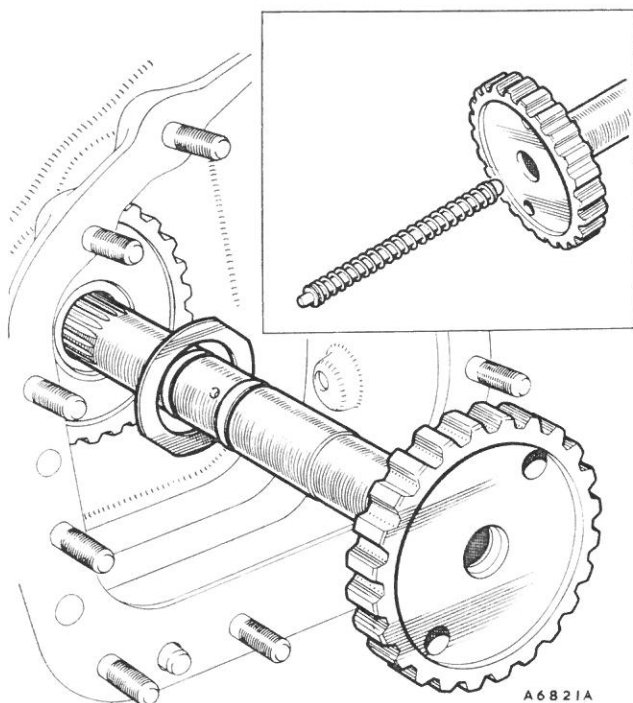

Fig. Fa.10
- (26) Tap up the locking washer.
- (27) Insert the forward output shaft with its bi-metal washer (see Fig. Fa.10) through the output gear assembly. Ensure that the reverse shut-off valve is located in the end of the shaft, and that the two rings on the shaft are in good condition.